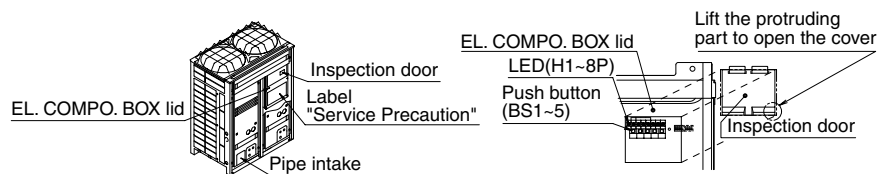
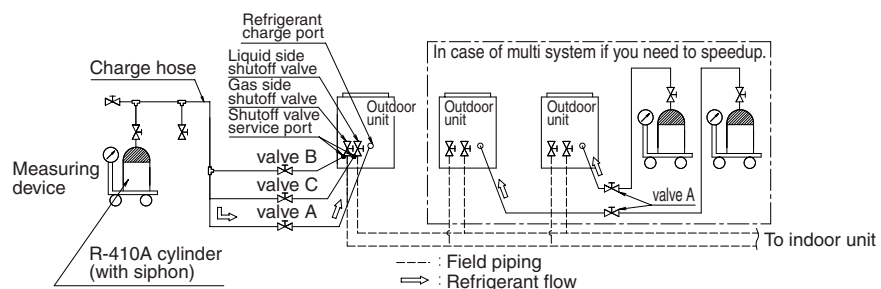

fig 32
fig 33
4. Perform the refrigerant charging operation following [Refrigerant charging operation procedure] as shown in page 189, and charge the remaining refrigerant of the “additional charging amount”. For performing the refrigerant charging operation the push button on the PC board (A1P) of outdoor unit (In case of multi system master unit) are use. (See the figure 32) In addition, the refrigerant are charged from the refrigerant charge port via the valve A. (See the figure 33)
If you need to speed up in case of multi system, connect the refrigerant cylinders to each outdoor unit as shown in the figure 33.
- (1) Open the liquid and gas side shutoff valves (The valve A~C must be closed. The valve A~C means the valves in the figure 33.)